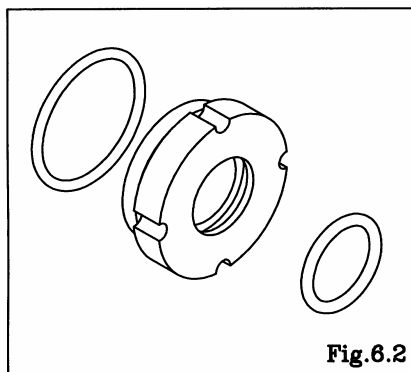

Fig.6.2
- Remove the O rings from the throat bearing. [Fig.6.2]